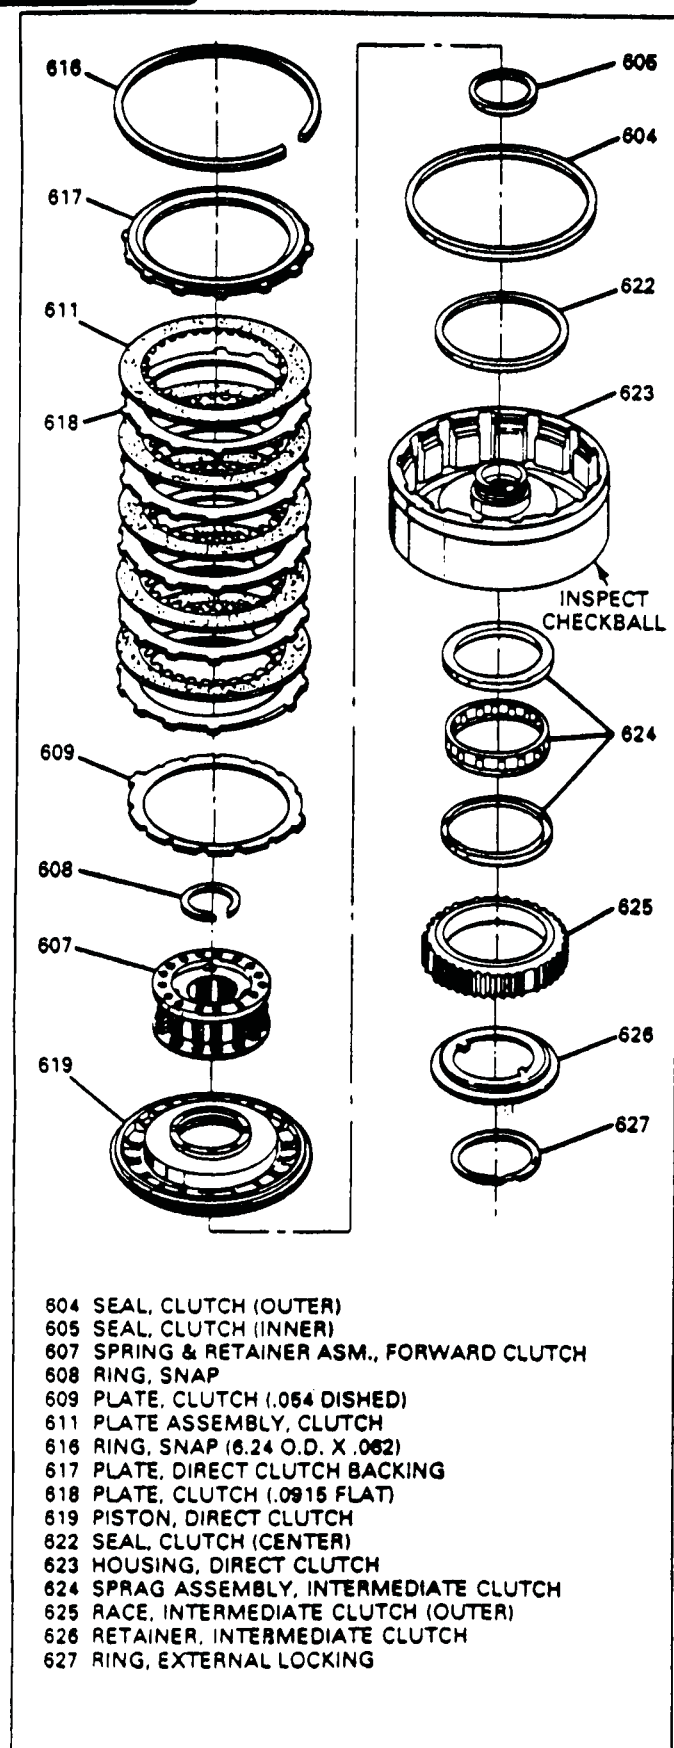

Figure 69
1. Remove the backing plate snap ring and the backing plate (See Figure 69).
5. Remove the spring compressor and remove the return spring assembly (Figure 69).
8. Remove the intermediate sprag parts for inspection if necessary (See Figure 69).